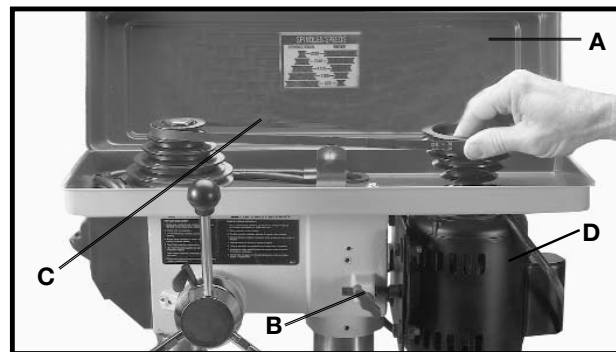

Fig. 26
2. Lift up the belt and pulley guard (A) Fig. 26.
3. Release belt tension by loosening tension lock knob (B) Fig. 26, and pivoting the motor (D) toward the front of the drill press.
4. While holding the motor toward the front of the drill press, position the belt (C) on the desired steps of the motor and spindle pulleys, as shown in Fig. 26.
5. After the belt is positioned on the desired steps of the motor and spindle pulleys, move motor (D) Fig. 26, to the rear until the belt is properly tensioned and tighten tension lock knob (B). The belt should be just tight enough to prevent slipping. Excessive tension will reduce the life of the belt, pulleys and bearings. Correct tension is obtained when the belt (C) can be flexed about 1 in. out of line midway between the pulleys using light finger pressure.